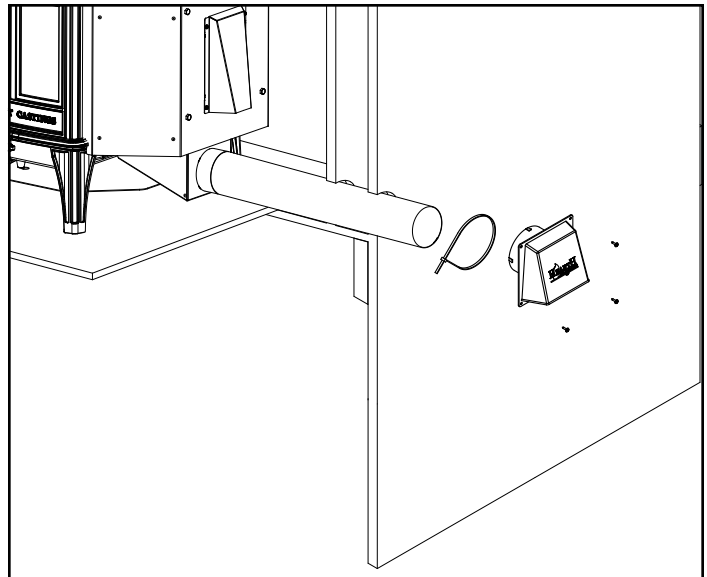

Figure 5.8 - Rear Installation
2. Using a #2 Phillips screw driver attach the flex adapter to the appliance using 4 screws. Figure 5.8 & 5.9.